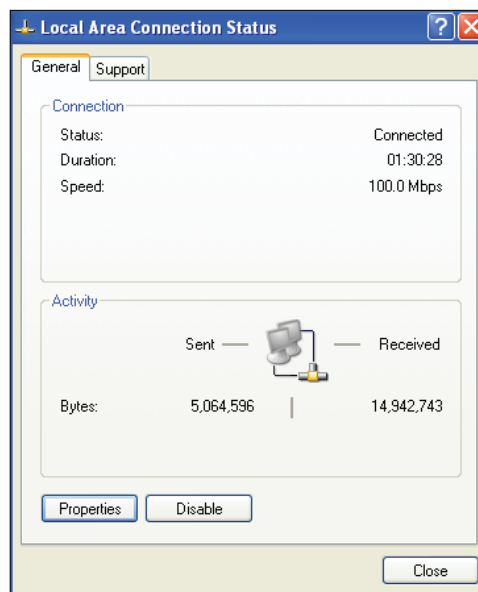

Figure 30: Local Area Connection Status Window
3. In the *Network Connections Window*, double-click the **Local Area Connections** entry. The *Local Area Connection Status Window* will appear (**Figure 30**).
4. As shown in **Figure 30**, click **<Properties>** in the lower left of the window. The *Local Area Connection Properties Window* will appear.